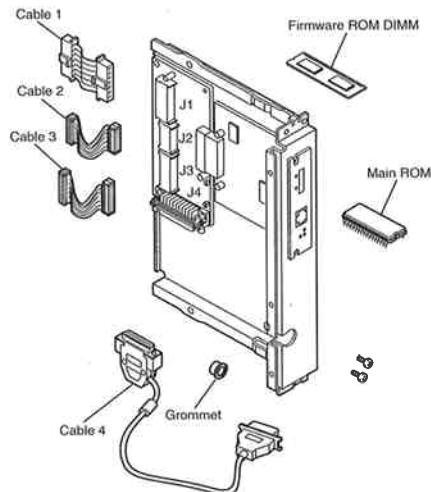

Figure 4-1 External View
- (7) Refer to Figure 4-1 and bend cables 1, 2 and 3 as shown in order to make insertion of the kit easier.
- (8) Insert cables Cable 1, 2 and 3 into J1, J2 and J3 on the kit.
- (9) Attach the Grommet to Cable 4. Then attach the cable to connector J4 on the kit with the screws.
- (10) Insert the Grommet into the hole of the kit.